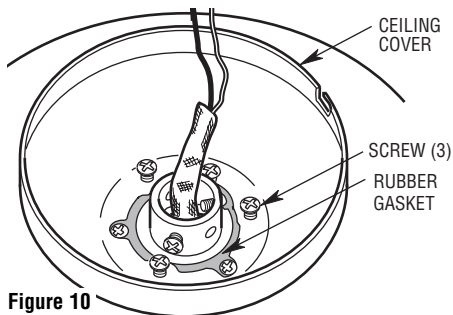

Figure 10
- 3. Position the ceiling cover onto the top of the motor housing and reattach the three screws previously removed (Figure 10).